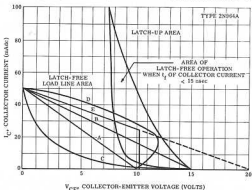

Figure 3-16 — Area of Permissible Load Loci Chart with Representative Load Lines
Since breakdown voltage specifications alone are not sufficient to forecast "latch-up" conditions, charts similar to the one shown in Figure 3-16 have been devised to provide a method of checking switching circuit load lines. This chart has three discrete areas indicated (1) a safe or latch-free load line area, (2) a conditionally safe area of operation, and (3) a forbidden or latch-up area.
The part of several representative load lines during turn off are shown on Figure 3-16 which applies to a 2N964A transistor. Load line "A" is a resistive load line and it lies entirely within the latch-free load line area. Load line "B" is also a resistive load, but it transverses the conditionally safe area, and could cause trouble if the fall time of the output pulse exceeds 15 nanoseconds. Load line "C" is a capacitive load line (collector current leads the collector voltage).